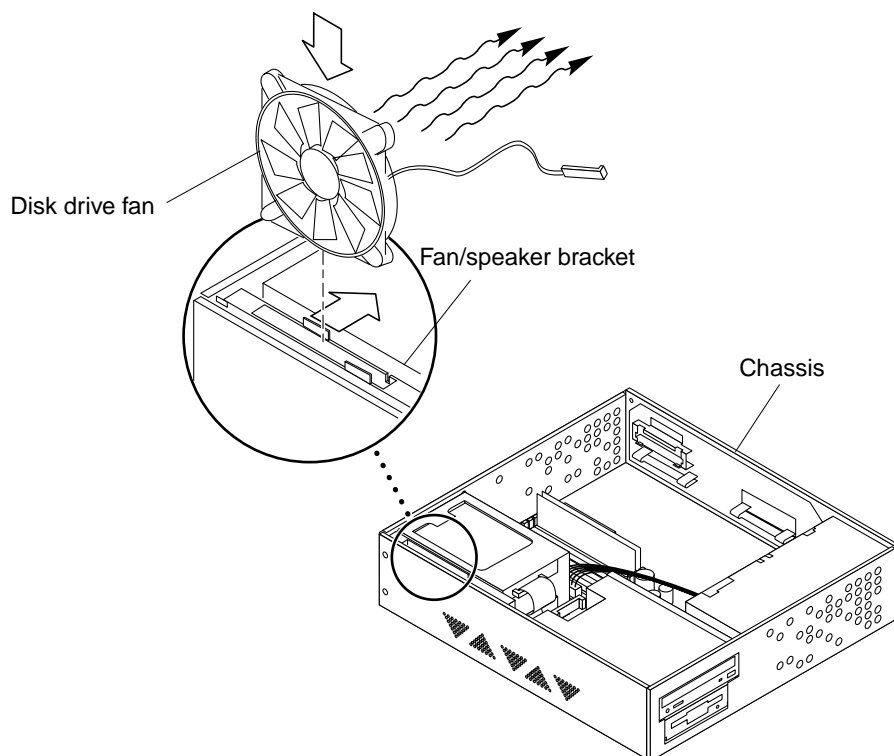

FIGURE 8-6 Replacing the Disk Drive Fan
1. Position the fan assembly so the arrow on the fan (not illustrated) faces the chassis and the harness faces the power supply (FIGURE 8-6).